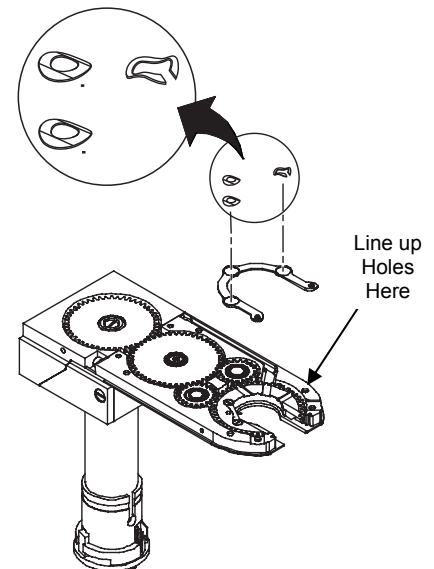

Figure 53 *Installing the Brush and Disc Springs*
5. Install the new wave spring and two curved disc springs into the brush pockets, making sure they are positioned as shown. See Figure 53.